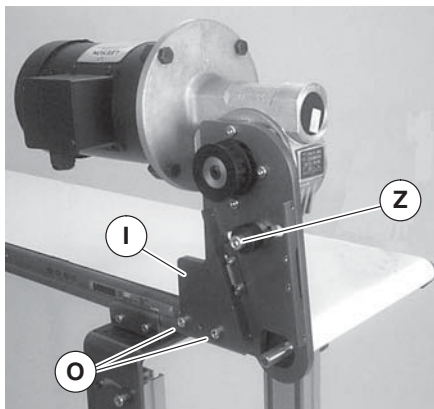
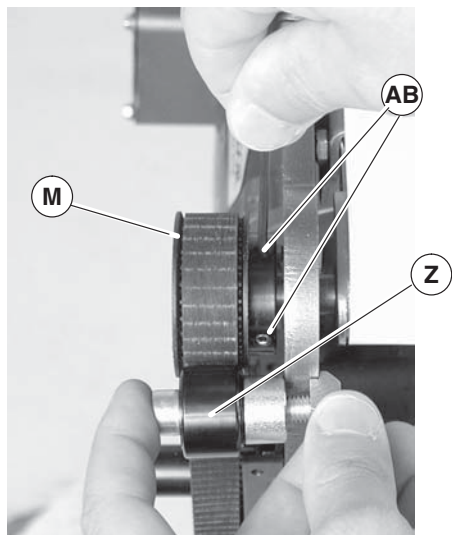

Figure 11
Figure 16
4. Attach mount assembly (Figure 11, item I) with screws (O). Tighten to 80 in-lb (9 Nm). For 4100 conveyors, proceed to step 7.
9. Remove cam bearing and spacer (Figure 11, item Z). Place the cam bearing and spacer (Figure 16, item Z) next to the driven pulley (M). Ensure the flanges of the driven pulley are aligned with the cam bearing. Tighten driven pulley set screws (AB). This will allow for proper belt alignment while conveyor is in use. Install cam bearing and spacer (Z).